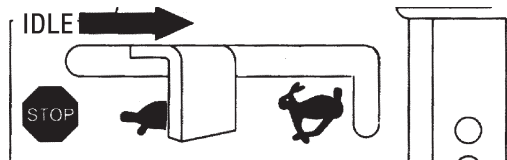

Figure 26. Throttle Lever (Idle Position)
1. Move the throttle lever to the **"TURTLE" (IDLE)** position (Figure 26) and run the engine for three minutes at low speed.